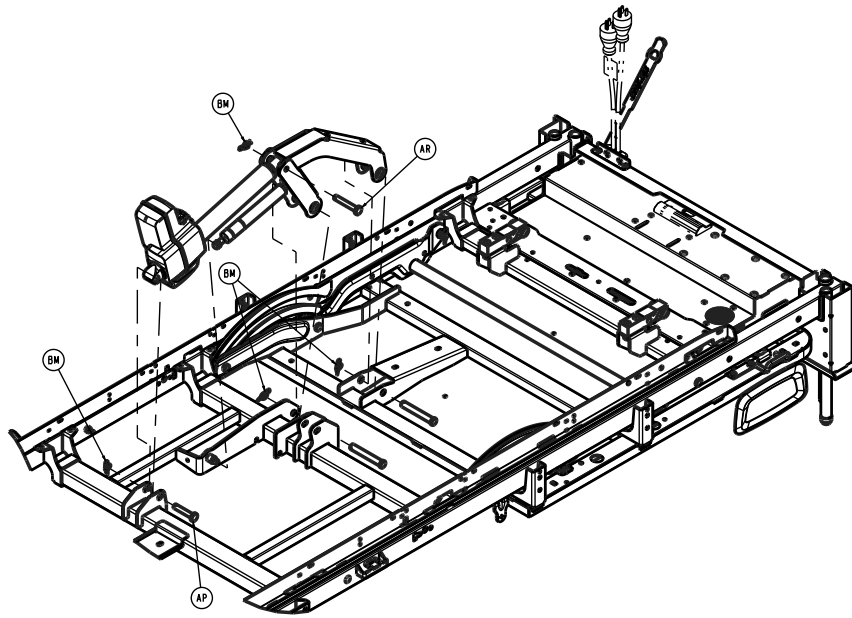

Figure 40 – Removing the upper Fowler actuator link rue clip
24. Using needle nose pliers, while you support the Fowler weldment, remove the upper Fowler actuator link rue clip (Figure 40).
26. While you continue to support the Fowler weldment, remove the Fowler actuator link clevis pin (Figure 40).